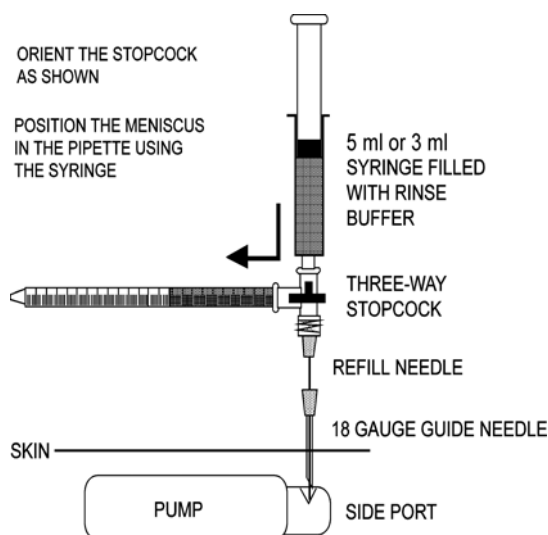

Figure 18: Stroke volume measurement setup
2. Turn the stopcock as shown in Figure 18. Press on the syringe to obtain a liquid meniscus in the pipette.